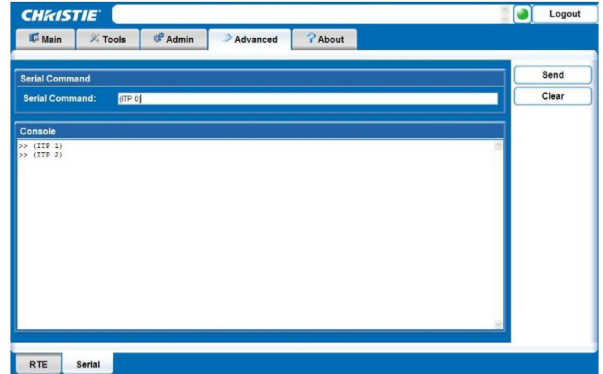

FIGURE 4-22 ADD SERIAL COMMAND
2. Click Send to add the serial command. See *Figure 4-22.*